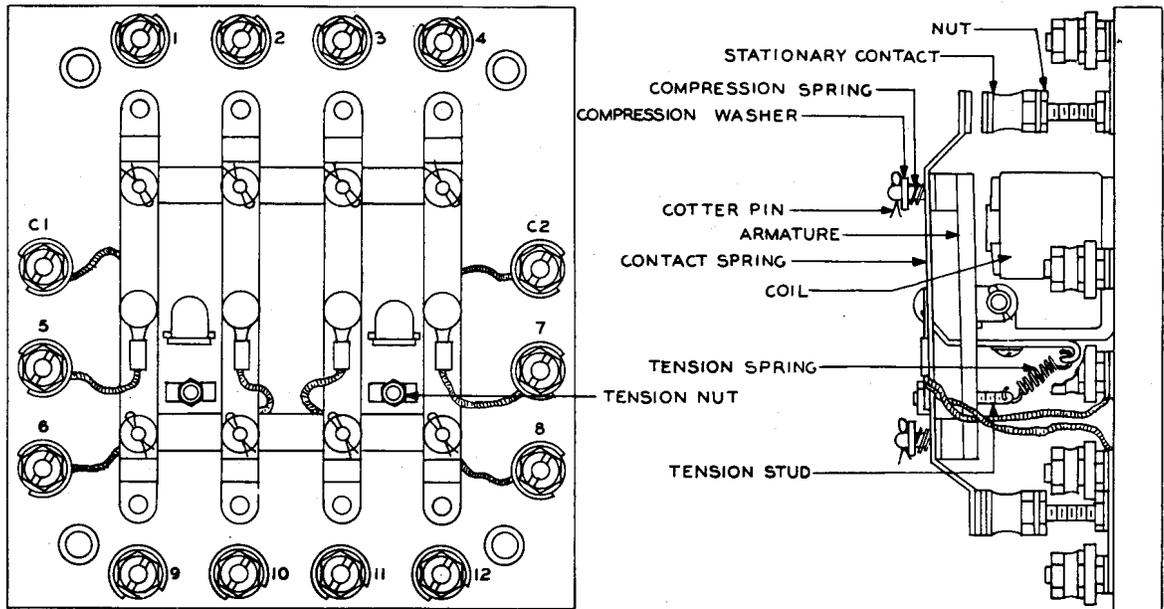

Fig. 1 - Control Relay (STRUTHERS-DUNN)
3.05 **Contact Spring - Moving Contacts:** (See Fig. 1 and 3.) To replace a moving contact, it is necessary to replace the complete contact spring which includes the moving contacts and the pigtail. To replace a contact spring, remove the cotter pins using the pliers, lift off the compression washers and the compression springs. Disconnect the pigtail from the terminal stud and remove the contact spring complete with the pigtail. Substitute the new contact spring and reassemble in the reverse order.
3.06 **Tension Spring:** (See Fig. 1 and 3) To replace the tension spring, remove the tension nut by raising the tension stud so the nut clears the stops and remove the nut. This will free the stud. Unhook the tension spring from the armature stop and the stud, using the pliers. Substitute the new tension spring and reassemble in the reverse order.
3.07 Stationary Contact: (See Fig. 1.) To replace a stationary contact, use the No. 417A wrench to turn the stationary contact in a counterclockwise direction and with another No. 417A wrench, hold the nut under the stationary contact. Remove the stationary contact. Install the new contact in the reverse order.
3.08 Coils: (See Fig. 1 and 3.) Mark and disconnect the coil leads from the terminal studs. With a screwdriver, dig out the sealing compound which covers the coil mounting screws in the rear of the base. Remove both coil mounting screws. This will free the armature, frame, armature stop, and the four contact springs as a unit. The coils will also be free. Remove the coil. Disconnect the coils from each other. Lift out the center core from the old coil. Insert the core in the new coil and reassemble in the reverse order.
3.09 Armature: (See Fig. 1 and 3.) To replace the armature, remove all contact springs as outlined in 3.05 except it may not be necessary to remove the pigtailed from the terminal studs. Release the tension spring at the end nearest the armature as outlined in 3.06. Remove or release the armature pivot pin or screw. Substitute the new armature and reassemble in the reverse order.